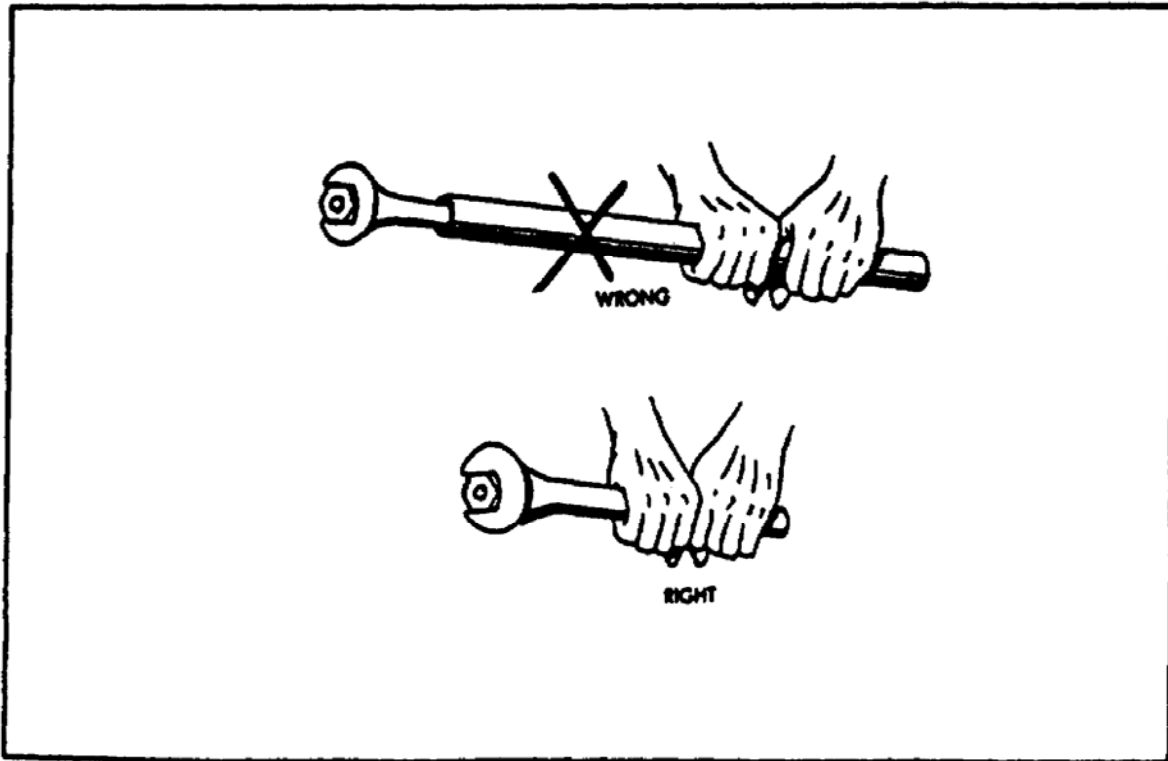

FIGURE 31. APPLYING LEVERAGE ON WRENCH.
- (1) Wrenches should fit the nuts or bolt heads they are to loosen or tighten.
- (2) Never turn adjustable wrenches so that the pulling force is applied to the adjustable jaw.
- (3) Do not use a pipe, or extend the handle in any way, to increase the leverage on a wrench (figure 31).